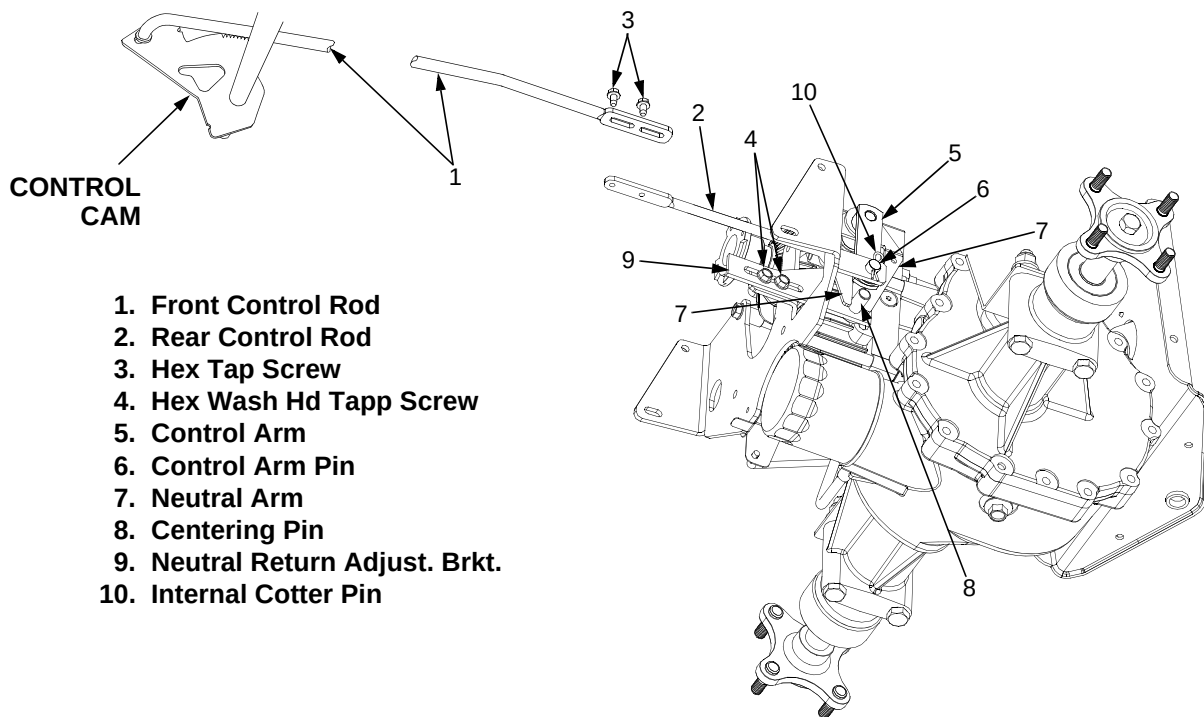

Figure 6-7
4. If wheel rotation is observed, refer to Figure 6-7 and adjust the neutral setting as follows:
- a. Disconnect the rear control rod (2) from the control arm (5) by removing the internal cotter pin (10) from the control arm pin (6).
- c. If wheel rotation continues, loosen the two hex washer head tapp screws (4) securing the neutral return adjustment bracket (9).
- d. If the rotation is in the *forward* direction, slide the neutral return adjustment bracket w/ centering pin (8) rearward until the wheels just begin to rotate in the *reverse* direction. Then slowly slide the neutral return adjustment bracket w/centering pin slightly forward until wheel rotation stops.
- f. Carefully tighten the hex wash. hd. tapp screws (4), making certain the neutral return adjustment bracket does not move.
After completing the previous steps (1 thru 4) for checking neutral setting, refer to Figure 6-7 and adjust the control rod as follows: